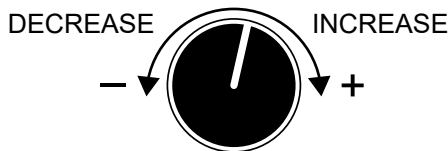

Figure 49. Voltage Regulator
10. If the voltage is not within the specified tolerance, use the **voltage regulator** (Figure 49) to increase or decrease the desired voltage.